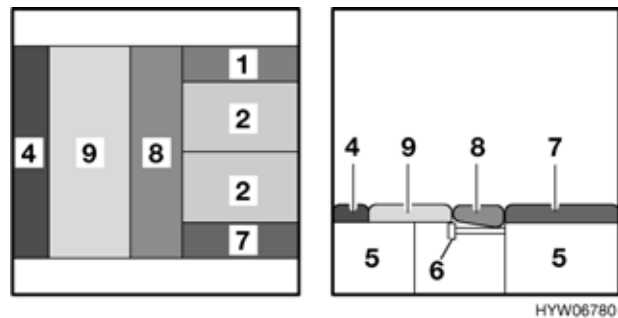

Fig. 78 After conversion
- Insert the additional cushion (Fig. 78,4) between the seat cushion (Fig. 78,9) and the exterior wall.
- Lay the back cushion (Fig. 78,8) on both bedding box extensions.